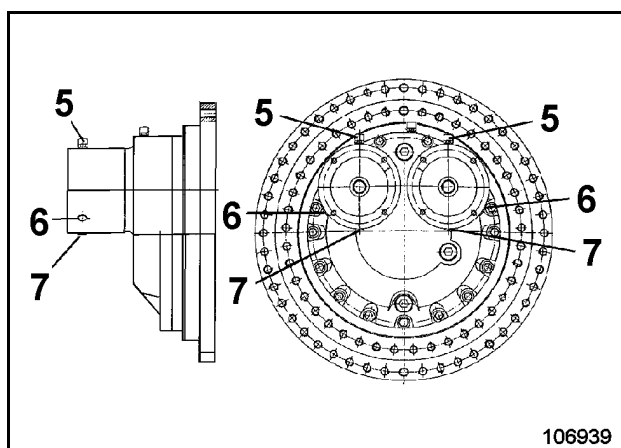

Fig. 3-91:
- Unscrew drain plugs (7, Fig. 3-91:) and drain off the oil completely.
- Unscrew breather filters (1 and 5, Fig. 3-91:) and clean in white spirit or parafin.